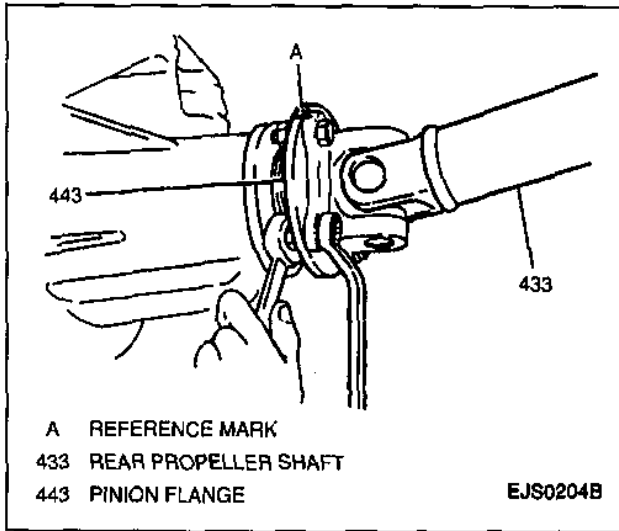

Figure 20—Removing Rear Propeller Shaft
- To ensure rear propeller shaft balance, an index mark (reference mark) must be placed on the differential pinion flange and the rear propeller shaft flange so that the rear propeller shaft can be installed in the same position from which it was removed (Figure 20). If this procedure is not followed, a driveline imbalance may result causing vibration, premature component wear or other undesirable characteristics.
8. Four bolts, four nuts and rear propeller shaft from vehicle (Figure 20).
7. Rear propeller shaft into vehicle; secure with four nuts and bolts (Figure 20).
- 10. Four bolts, four nuts and rear propeller shaft from vehicle (Figure 20).